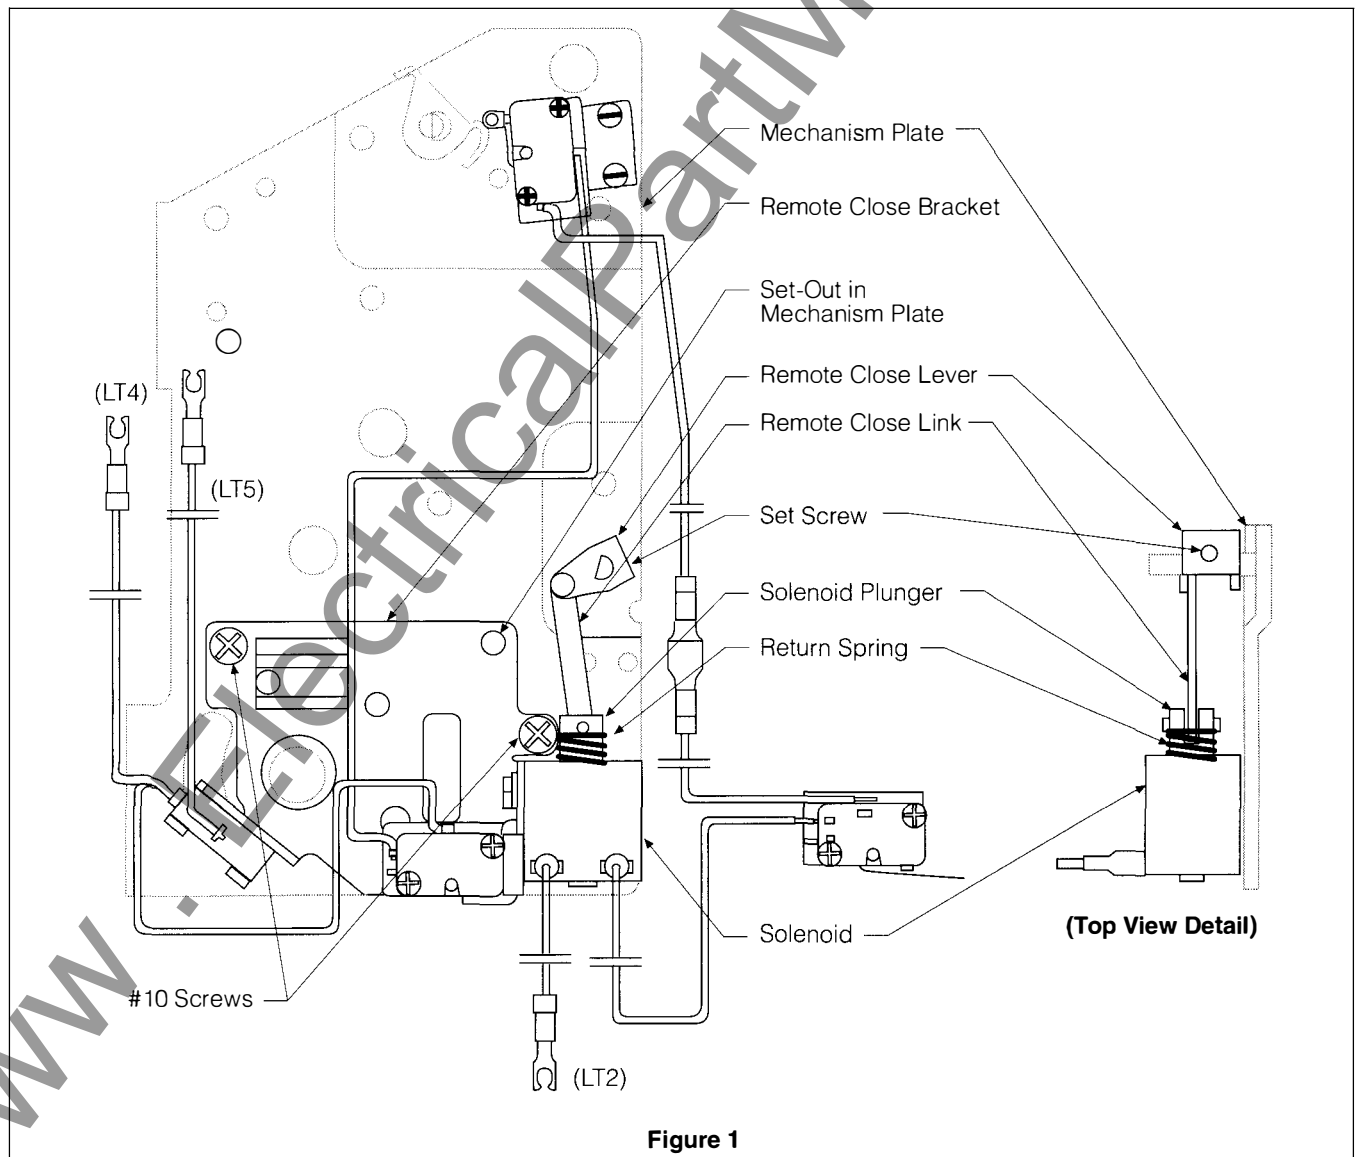

Figure 1
- 1.) Remove rubber band from the solenoid plunger. Slide the remote close lever on to the closing D-shaft but do not tighten the set screw at this time (see figure 1).
- 2.) Place the return spring over the solenoid plunger and slide the solenoid over the solenoid plunger (see figure 1).
- 3.) Attach the remote close assembly to the mechanism plate using the (2) #10 screws provided. The assembly is aligned by a set-out in the mechanism plate that fits in a hole in the remote close bracket.
- 4.) Align remote close link with solenoid and tighten set screw (see top view detail in figure 1).